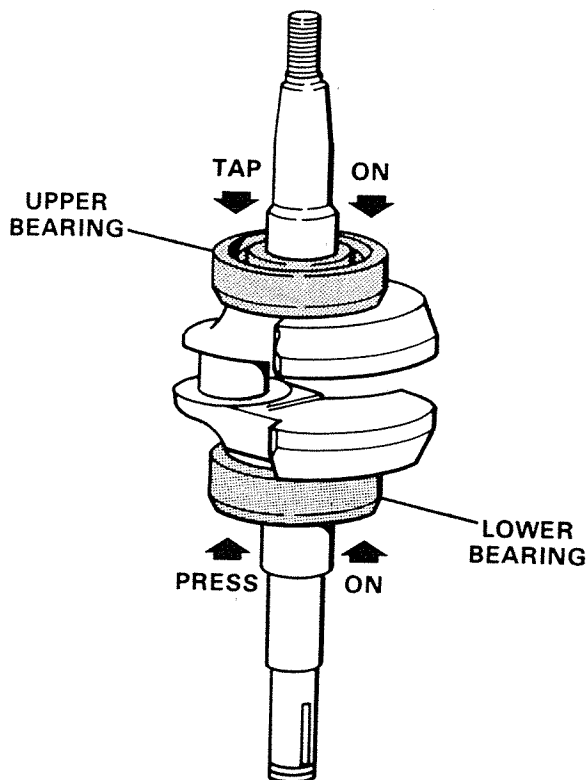

Figure 21. Installing Crankshaft Bearings.
- B. Install lower crankshaft bearing, lettered side out, until it seats on shoulder of crankshaft, using arbor press. Figure 21.